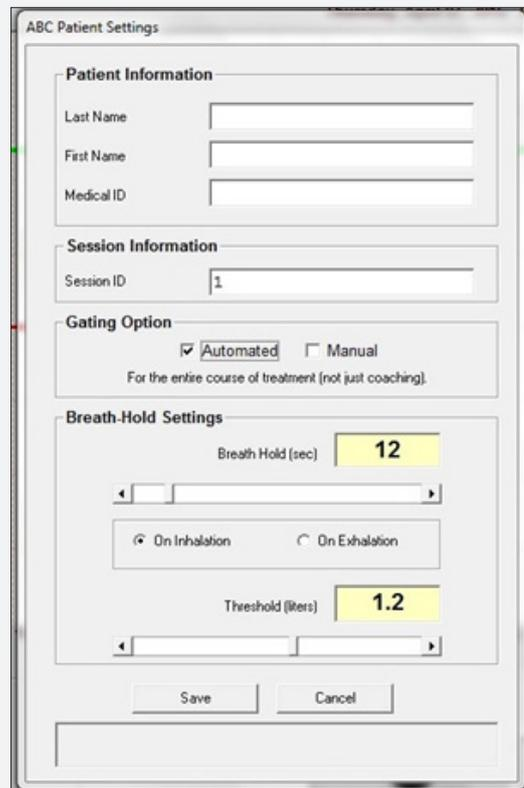

Figure 12 : Login to ABC computer (Password: abc lowercase.)
v. Login to ABC computer (Password: abc lowercase) (Figure 12).